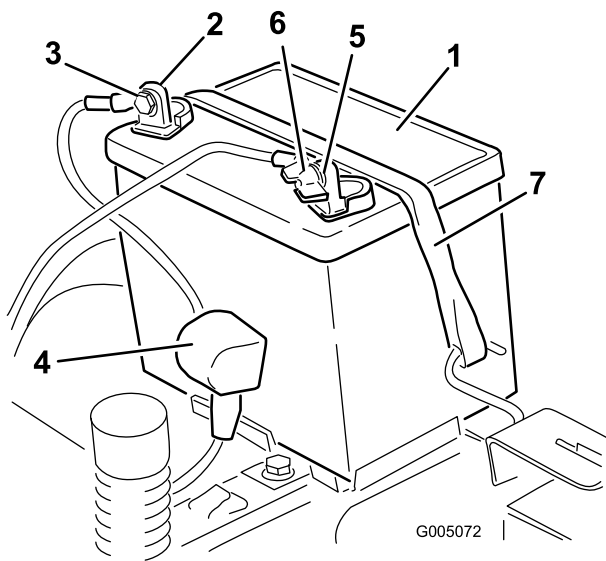

Figure 36
4. Disconnect the negative (black) ground cable from the battery post (Figure 36). Retain all fasteners.
5. Slide the rubber cover up the positive (red) cable. Disconnect the positive (red) cable from the battery post (Figure 36). Retain all fasteners.
6. Remove the battery hold-down (Figure 36) and lift the battery from the battery tray.
1. Position the battery in the tray with the terminal posts toward the operating position (Figure 36).
5. Secure the battery with the hold-down (Figure 36).